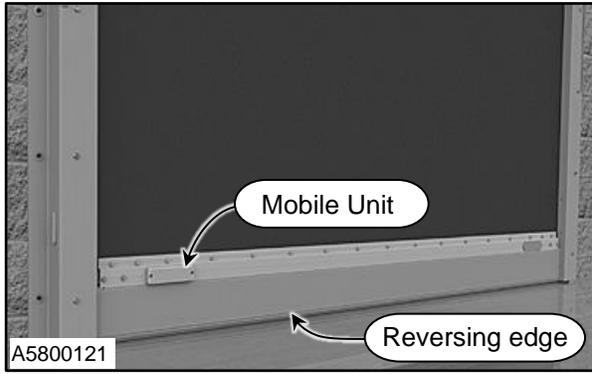

Figure 21
7. Inspect sealed reversing edge for tears or abrasions. An improper seal will make the door malfunction and not change direction upon impact. (See Figure 21)